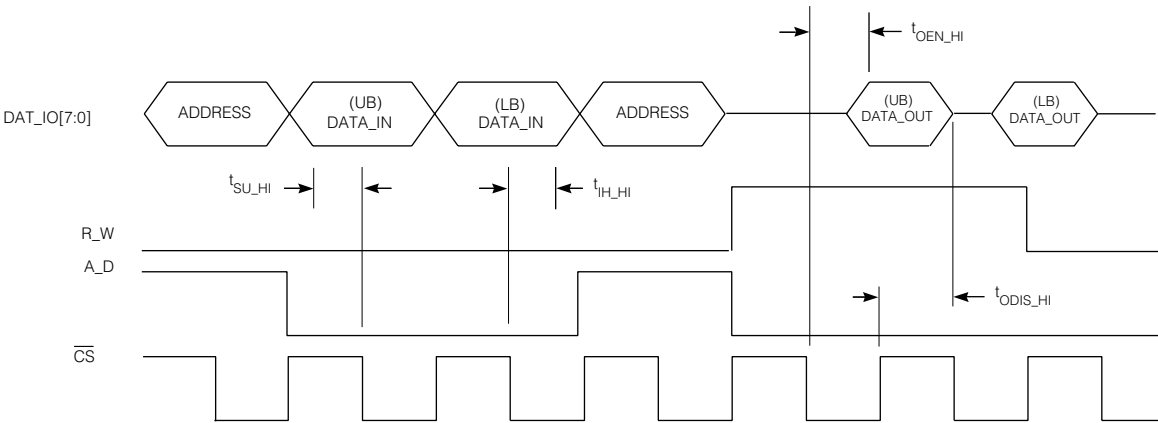

Fig. 11 Write Cycle to the Parallel Interface
A write cycle to the parallel interface is shown in Figure 11. First an 8-bit address word is provided to the DAT_IO bus by asserting the R_W pin to LOW and the A_D pin to HIGH. The MSB of the address word contains an auto-update flag, which allows automatic configuration of predefined registers. The 5 LSB's of the address word contain the address location for the read or write operation. The remaining address bits DAT_IO[6:5] are reserved. The address word is registered on the falling edge of \overline{CS} . Following this, the A_D pin is driven LOW and two data words are sent upper byte (UB) word first and are each clocked in on the falling edge of \overline{CS} . Two 8-bit data words must follow each address word to occupy each 16-bit parameter, which are defined in Table 5.